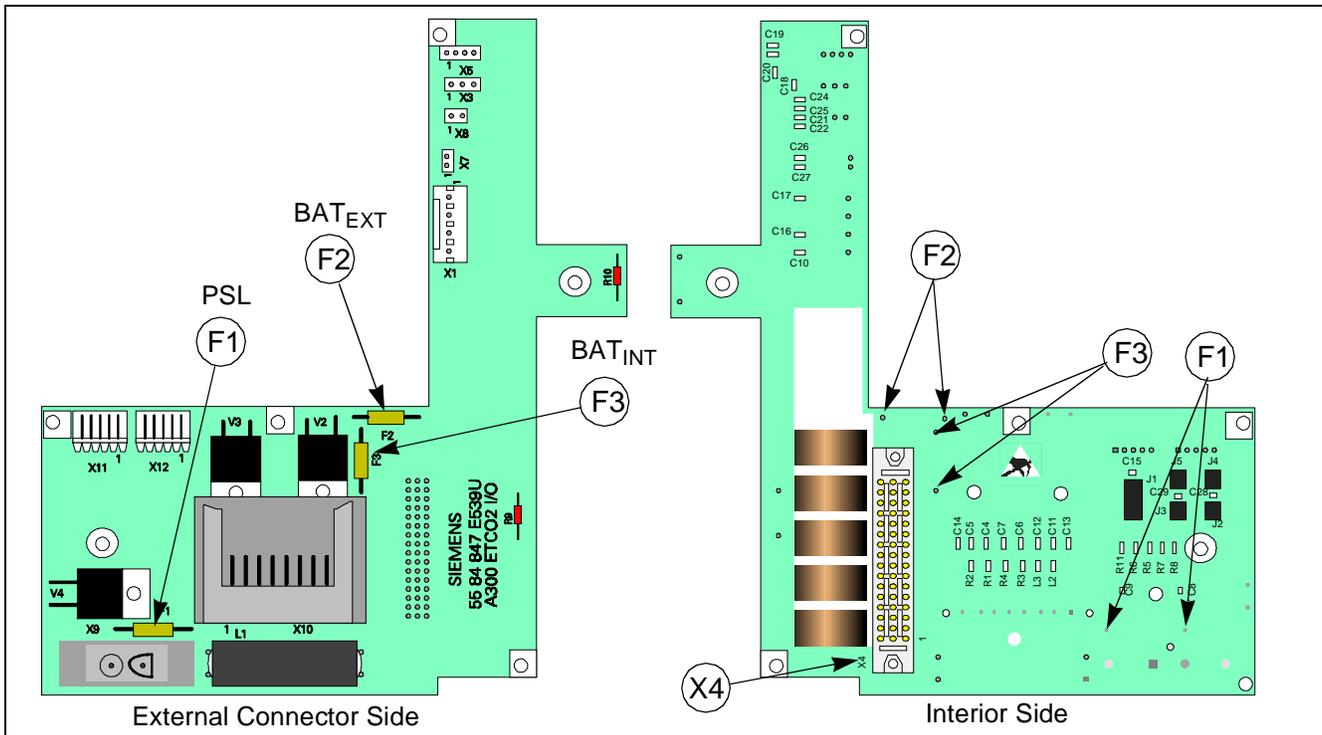

Figure 5-1 Connector I/O PCB
- 6) Check continuity of F1. See Figure 5-1 on page 76.
- 4) Check in-line fuse in power harness (if installed), and check for $<5\Omega$ between black wire battery terminal connector and pin 4 on connector X1. See Figure 5-1 on page 76.
- 6) Check continuity of F3. See Figure 5-1 on page 76.
- 3) Remove back cover, and with external power plugged into monitor check voltage between pins 1 and 2 of X1. See Figure 5-1 on page 76
- 5) Check continuity of F2. See Figure 5-1 on page 76.
- 2) Check continuity of F1, F2, and F3. See Figure 5-1 on page 76.
- 2) Remove battery/NBP compartment access door and unplug battery power cable connector from X1. See Figure 5-1 on page 76.
- 11) Check continuity of F2 (if external battery problem) or F3 (if main battery problem). See Figure 5-1 on page 76.